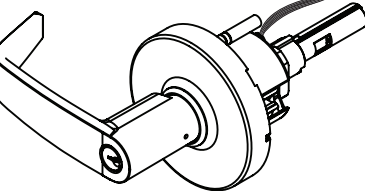

Fig. 7A
1. From outside of door feed lockbody harness into the lockbody hole (Fig. 7A).